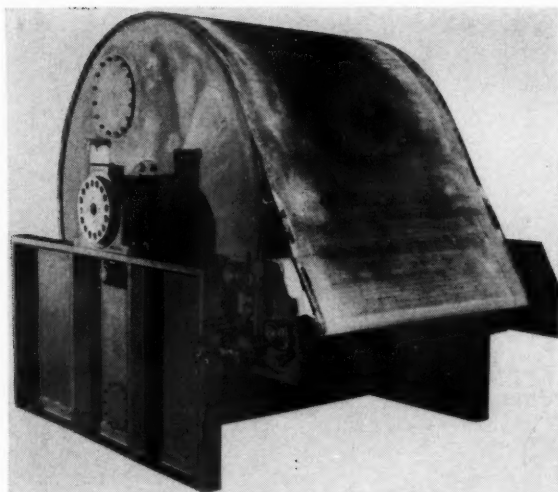

Fig. 2. Removable belt drum filter with woven stainless steel belt. Unit is now available with cloth belt.
For many years industry has searched for a way to provide constant removal and re-application of a filter cloth on a drum filter. Patents on such devices were issued as early as 1868 to Helem Merrill. In all cases early failure resulted because of (1) cloth alignment troubles, and (2) end and cross seal troubles. Sometime ago a removable belt drum filter (figure 2) overcame both of these troubles using a steel mesh for filter medium; but an aligning device for a fabric medium was still lacking. Inasmuch as the available aligning devices all worked on the principal of adjusting the parallelism of two axes, they all resulted in stretching the edges of the belts and all suffered because of the tendency of cloths to shrink or stretch differentially.